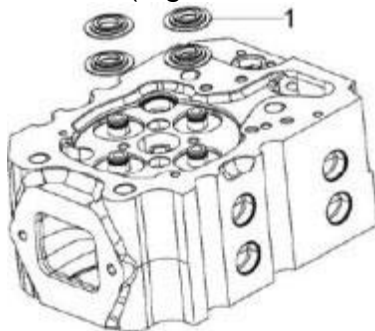

Figure 69. Valve Spring Retainer
1. Install the valve spring bottom retainers (Figure 69, Item 1).